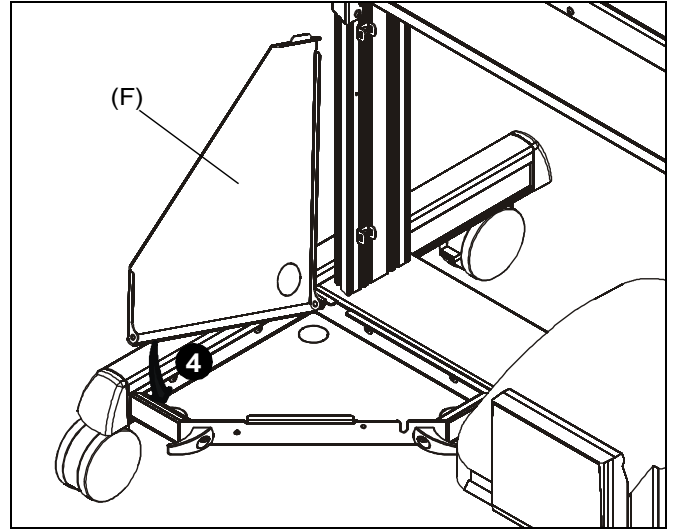

Figure 3
4. Install shelf door (F) to shelf (A). (See Figure 3)